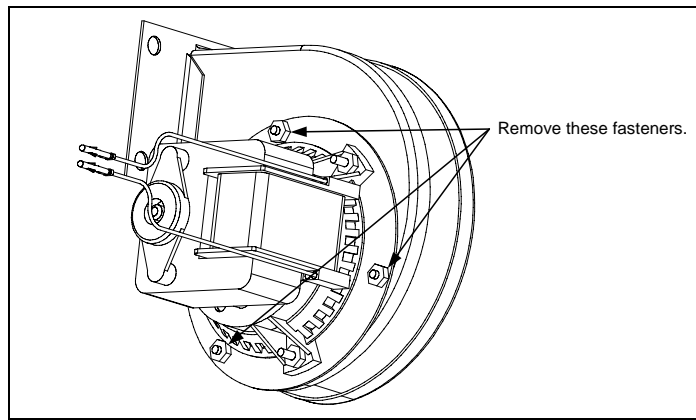

Figure 2
2. Remove the three fasteners that secure the blower motor assembly to the blower housing, and separate the two components (see Figure 2 on the following page).